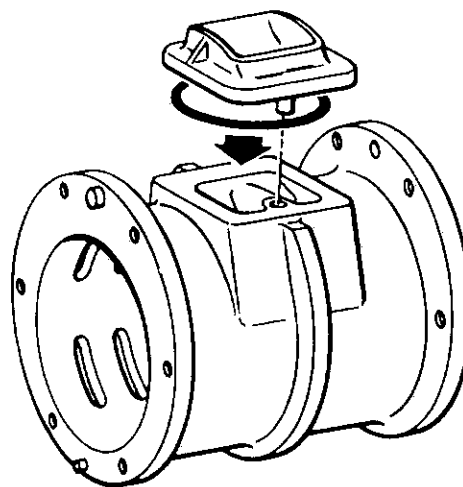

Figure 6.15
8. Place a new sleeve adapter seal (33) in the sleeve adapter (34) and install adapter on the air motor sleeve assembly. Align ramp in sleeve adapter with arrow on sleeve to ensure desired rotation of rotor assembly. See Figure 6.15.